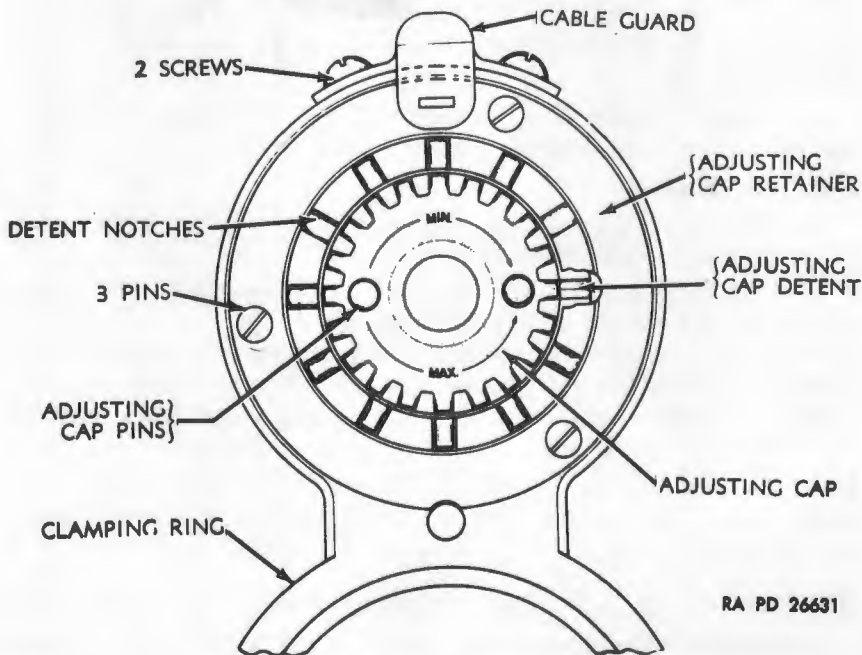

Figure 386. Adjusting subcaliber gun in azimuth.
- (b) To adjust the subcaliber gun in azimuth (fig. 386), remove the cotter pin which locks the horizontal adjustment handwheel to the mount clip, adjust the handwheel until the correct azimuth is obtained, and install the cotter pin.
g. Removing the Subcaliber Mount. Remove the mount retaining screw (fig. 386) and slide the mount from the breech casing.